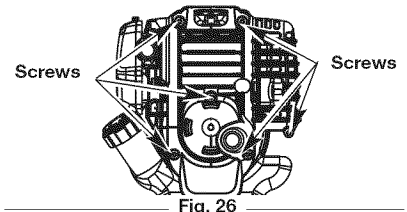

Fig. 26
1. Remove the six (6) screws on the back of the engine cover with a Flat-head or T-25 Torx screwdriver (Fig. 26).
4. Remove the engine cover (Fig. 26).
1. Stop the engine and allow it to cool. Remove the six (6) screws on the back of the engine cover with a Flat-head or T-25 Torx screwdriver (Fig. 26).